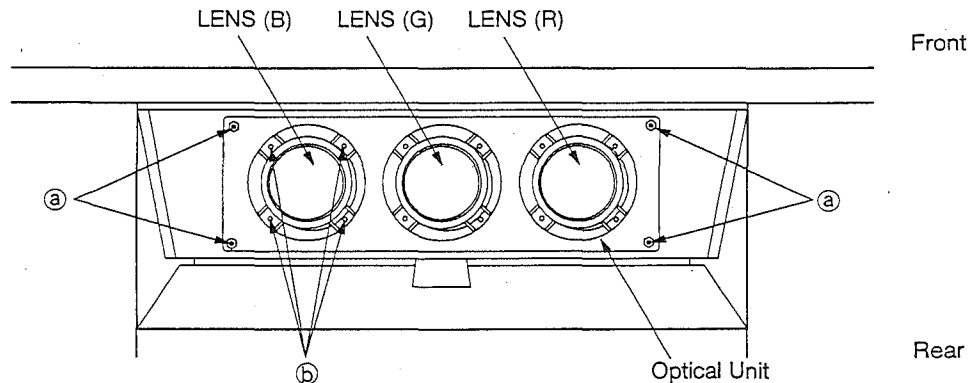

Fig. 5-2
4. Remove 4 hex-nuts (a) retaining the Optical Unit. (Fig. 5-2)
5. Remove 4 screws (b) retaining the Lens while supporting the CRT. (Fig. 5-2)
3. Insert the Lens into the Optical Unit. (Fig. 5-2)
6. Insert the Optical Unit into the Cabinet. (Fig. 5-2)